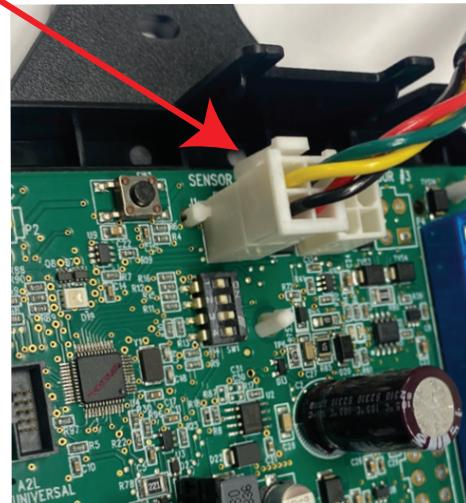

Figure 4. Connecting the RDS Sensor to RDS Non-Communicating Blower Control Board
Ensure the cable is properly connected into the number one (1) sensor plug. The Molex plug clip should lock into the Molex connection point for a secured connection, as shown below in Figure 4. Verify the connection is free of dust, debris, and moisture.